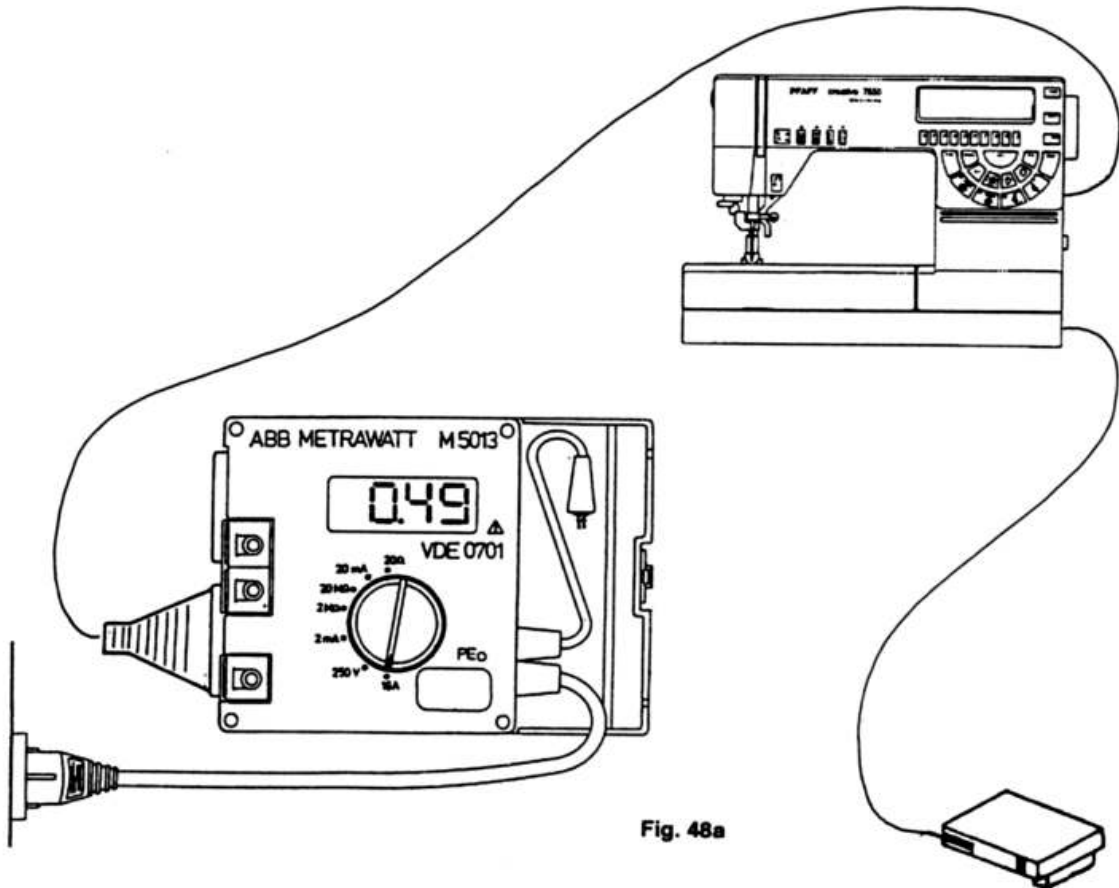

Fig. 48a
- Set knob for the measuring range at 16 A (fig. 48a).